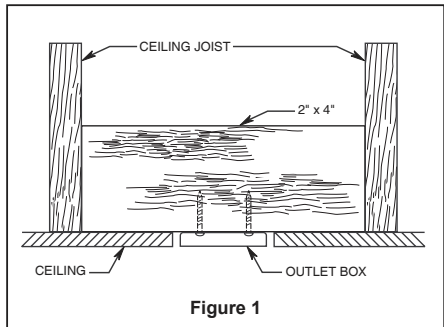
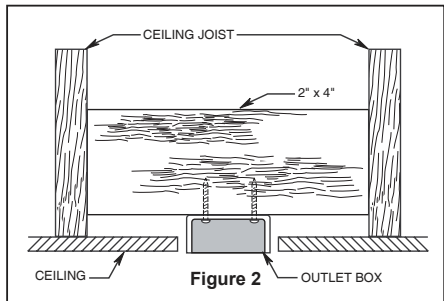
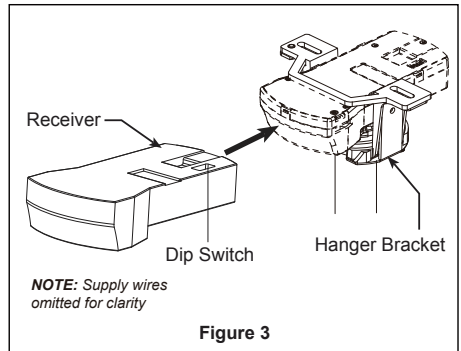

Figure 1
Figure 2
Figure 3
Your new ceiling fan will require a grounded electrical supply line of 120 volts AC, 60 HZ, 15 Amp Circuit. Electrical code requires use of a fan-rated outlet box to support the extra weight and motion associated with a ceiling fan. A fan-rated box will be labeled as such and typically supports up to a 70lbs ceiling fan. Fan-Rated Outlet Boxes vary in ratings and design. Ensure the ratings of your ceiling fan outlet box meet the requirements for the ceiling fan being installed. Figure 1, Figure 2 and Figure 3 depicts different structural configurations that may be used for mounting the outlet box.
Low-profile use (Figure 1)
Deep-profile use (Figure 2)
Brace use (Figure 3)
3. Remove the hairpin clip and clevis pin from the bottom of the downrod. Retain the pin and clip for reinstallation in Step 5. (Figure 3)
1. Securely attach the hanger bracket to the outlet box (not included) using the outlet box screws and washers supplied with the outlet box. (Figure 3)
2. Slide the receiver into the hanger bracket before wiring as shown in figure 3.
- 3. Remove the battery cover from remote control by screwdriver and retain the screw for later. (Figure 3)